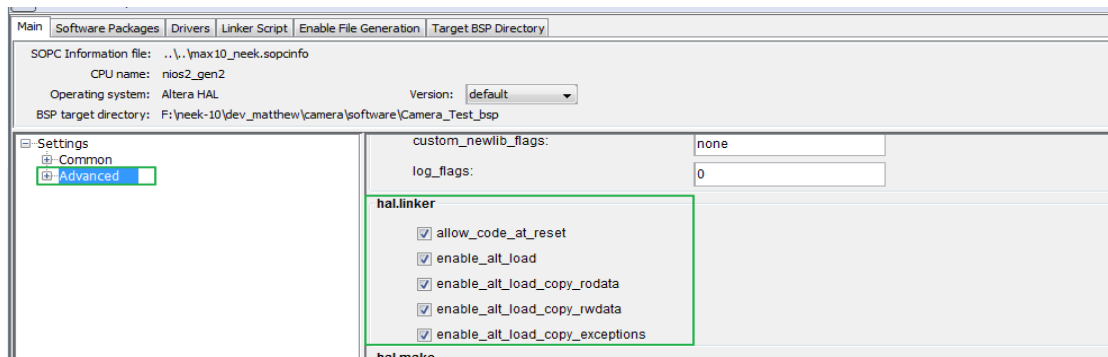

Figure 8-10 BSP Advance Setting
- In the **BSP Editor (Nios II SBT for Eclipse)** utility of the Eclipse, all the check box in the hal.linker table should be checked as shown in **Figure 8-10**.